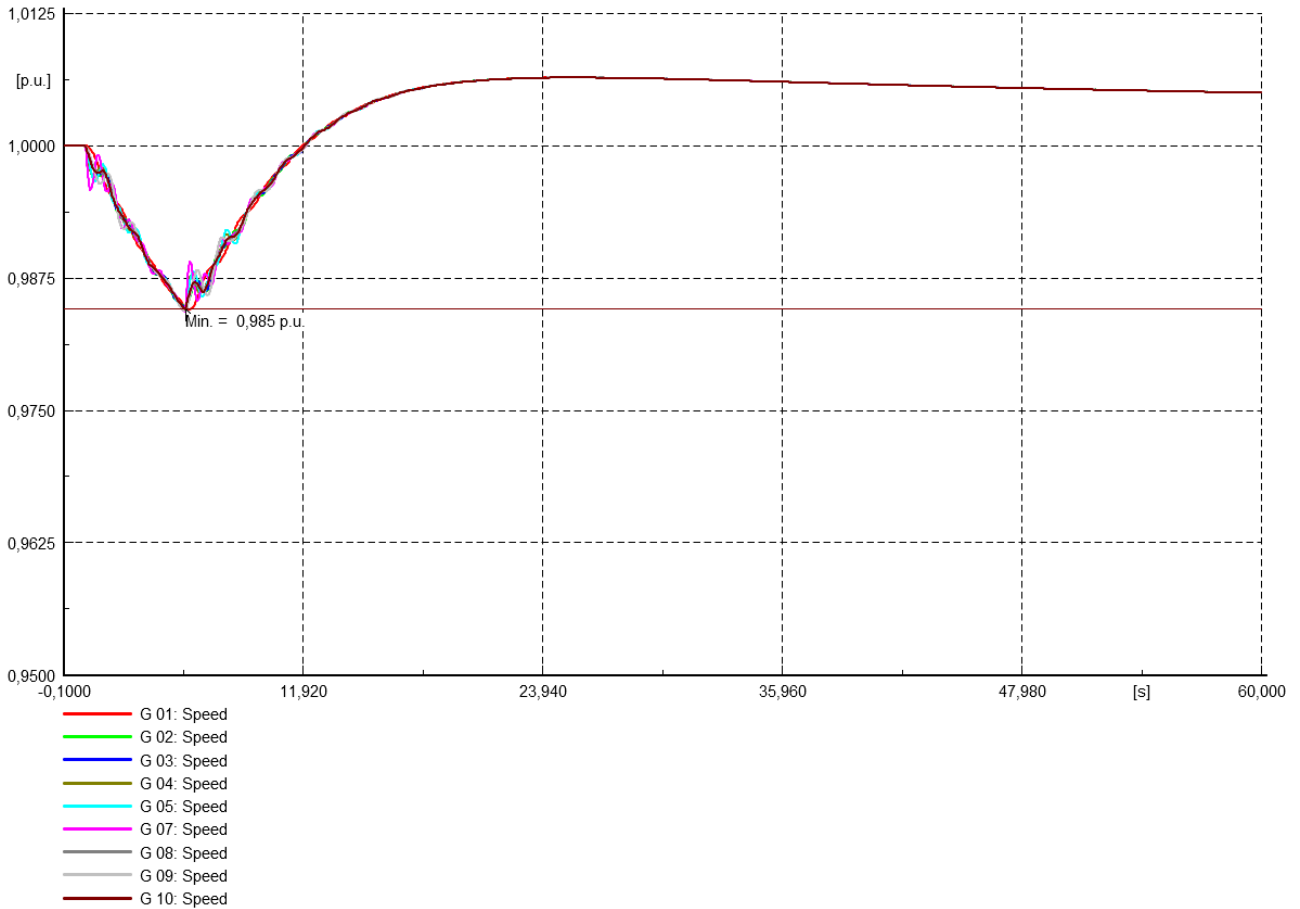

Figure 2.4: G 06 Trip with UFLS at Load 16, 21 and 23
**Case 4:** Right click on the Study Case “04\_G 06 Trip with UFLS” and activate it. When UFLS at Loads 16, 21 and 23 is in service, the following plot as shown in the figure 2.4 shows the frequency response of the system.